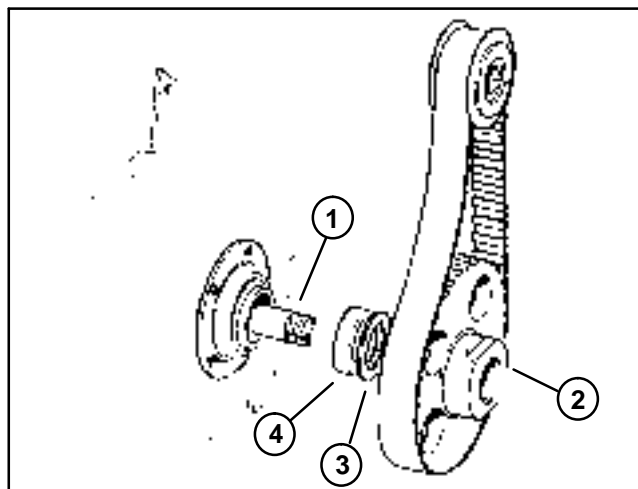

Figure 22
**Note:** The pulley (LH) has left hand threads, while the pulley (RH) has right hand threads. Each pulley has an arrow stamped on it for the direction of tightening.
2. Remove pulley from drum shaft as follows (Fig. 22):
3. Install pulley to the drum shaft as follows (Fig. 22):